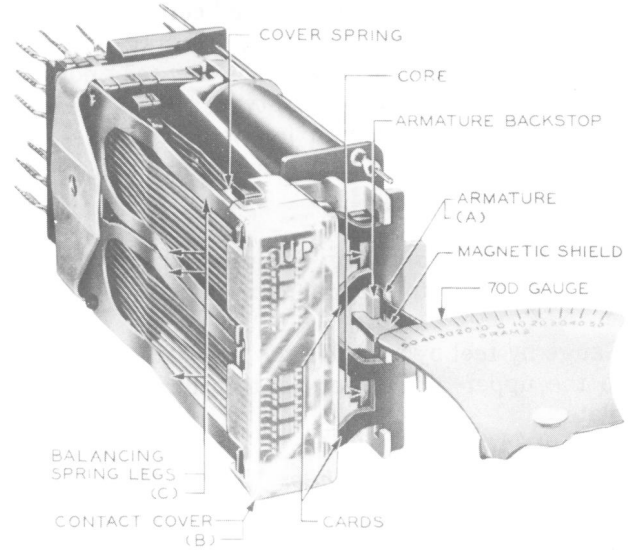
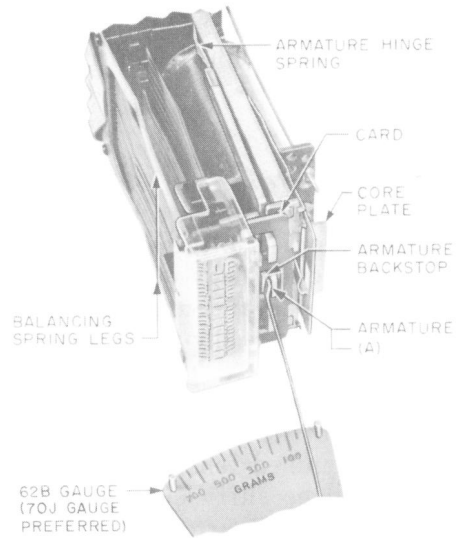
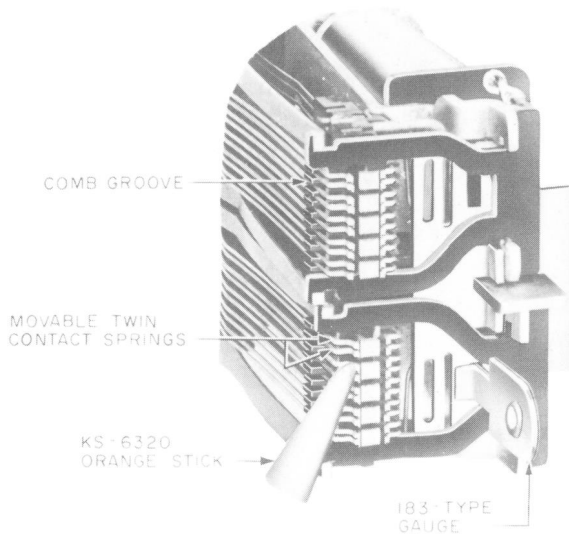

Fig. 2—AM Type Relay—Gauging Armature Back Tension
Fig. 4—Method of Checking Armature Back Tension for AL Type Relay
Fig. 8—Method of Checking Open or Closed Contacts of AM-Type Relay
1.002 This addendum is issued to revise 2.07, revise Fig. 4, and to correct Fig. titles for Fig. 2 and Fig. 8. The attached pages must be inserted in the section in accordance with the filing instructions above.
- (b) Fig. 2—title corrected
- (c) Fig. 4—revised
- (d) Fig. 8—title corrected
2.06 Balancing Spring Tension: Fig. 2(C) and 3(B)—With the relay in the unoperated position, the combined tension of the balancing spring legs shall be sufficient to hold the card against the associated surfaces on the armature and the armature against its backstop. (See requirement 2.07.)
2.07 Armature Back Tension: Fig. 2(A) and 4(A)—The armature shall bear against its backstop with a pressure of:
Use the 62B or 70J gauge as follows. On AL-type relays, apply the gauge to the tip of the armature as shown in Fig. 4(A). On AM-type relays, apply the gauge to the armature in front of the armature backstop as shown in Fig. 2(A), making sure that the gauge clears the backstop and magnetic shield.